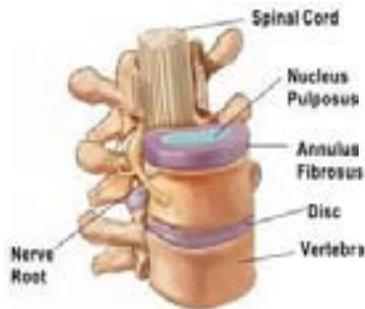

Figure 4- Side view of disc
- The discs lie between the vertebrae and act as shock absorbers and spacers between the vertebrae. They are made up of a gel-like centre (called the nucleus pulposus) surrounded by strong fibrous tissue called the annulus (Figure 4).